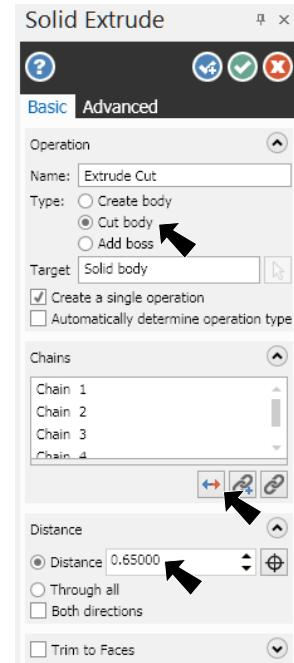

Fig. 32
Step 4. In Solid Extrude function panel, **Fig. 32**